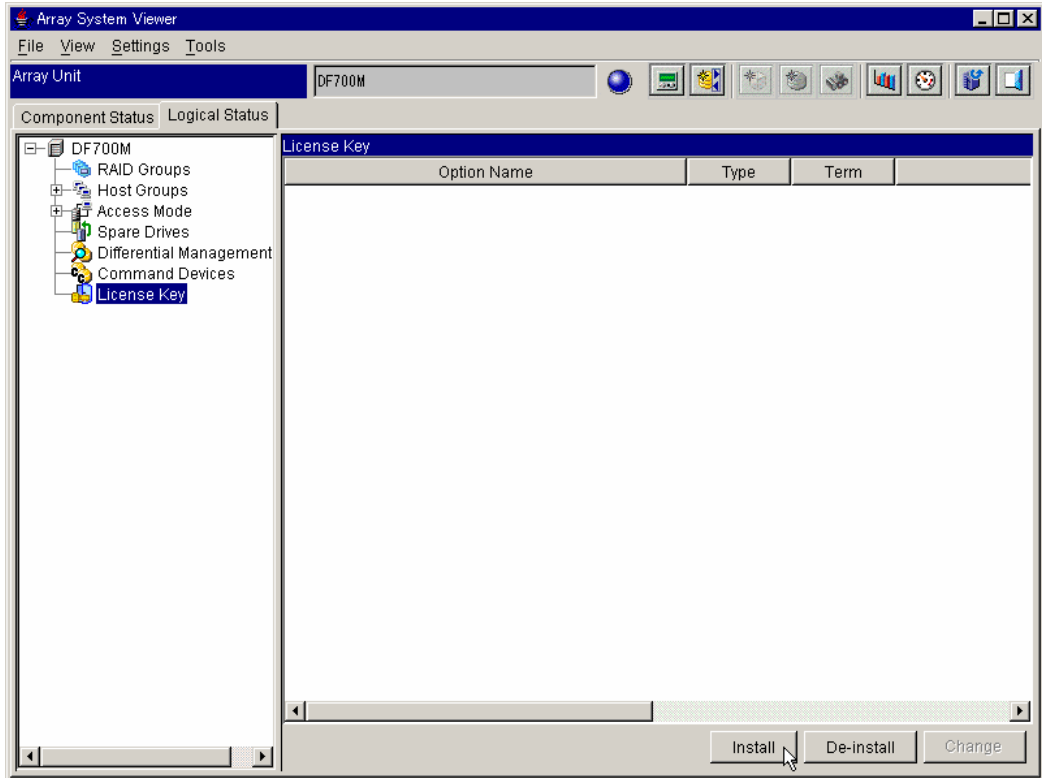

Figure 4.29 Selecting the License Key View
1. Click the **Logical Status** tab on the **Array System Viewer** window (see Figure 3.30), and then click the **License Key** icon (see Figure 4.29).